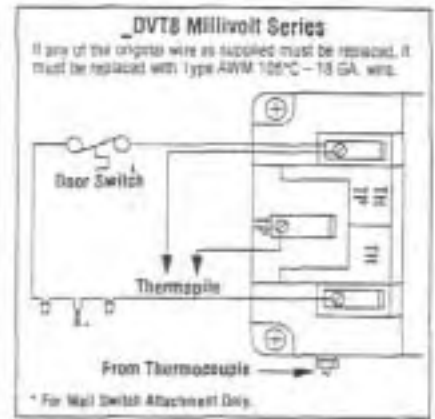
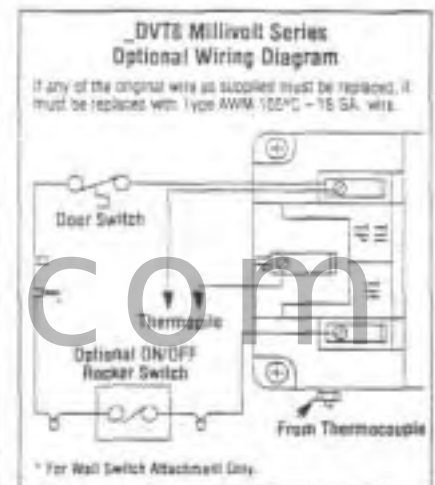

Figure 32
Figure 33
Step 6. Installing the Optional Remote Wall Switch – The standard \_DVT8 millivolt system comes from the factory wired as shown in Figure 32. Select a convenient location for the remote wall switch and connect the wiring to the appliance (Figure 33).